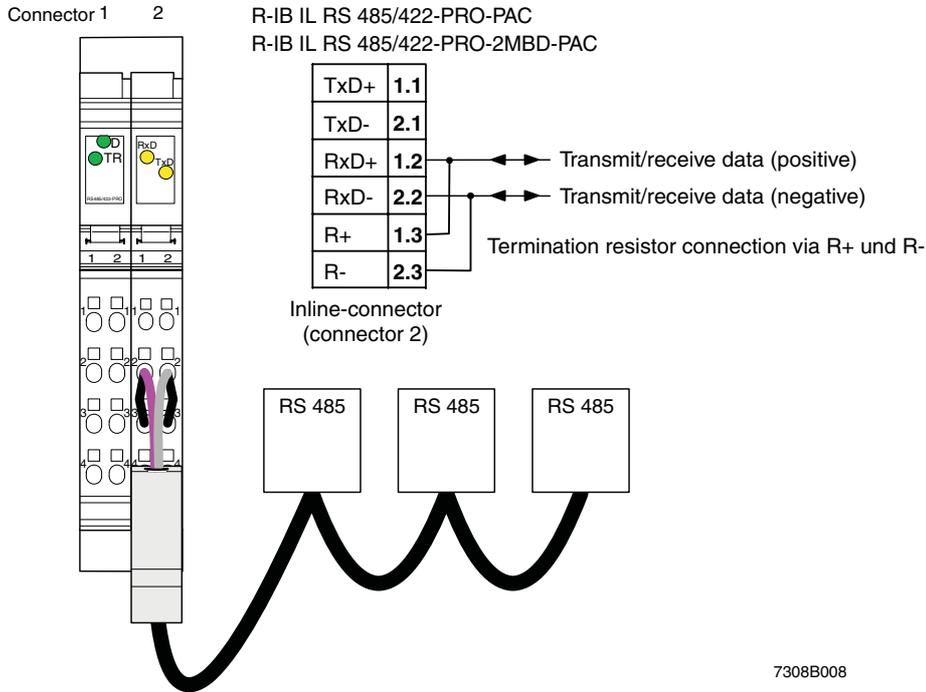
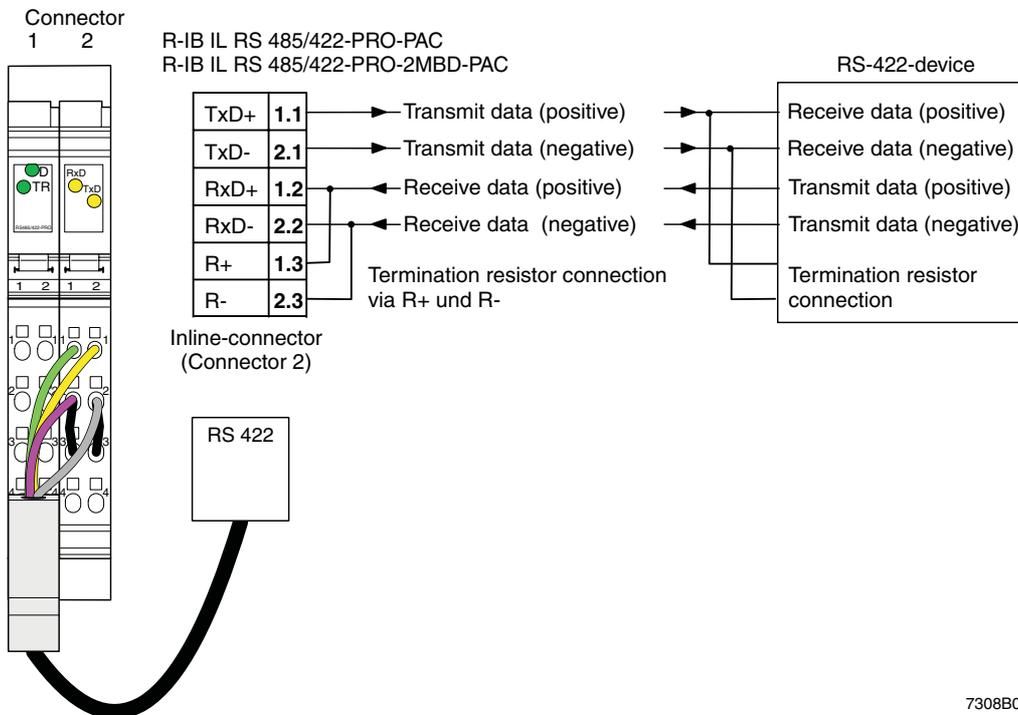

Fig. 5 Interface Wiring RS485: terminal as the end point of a network data line shield connected with a capacitor to FE
Fig. 9 RS422 interface wiring: data line shield directly connected to FE
Connection examples are shown in Figures 5 to 7 on pages 10 to 11.
8.1 Comparison of Wiring Examples in Fig. 5 to Fig. 9